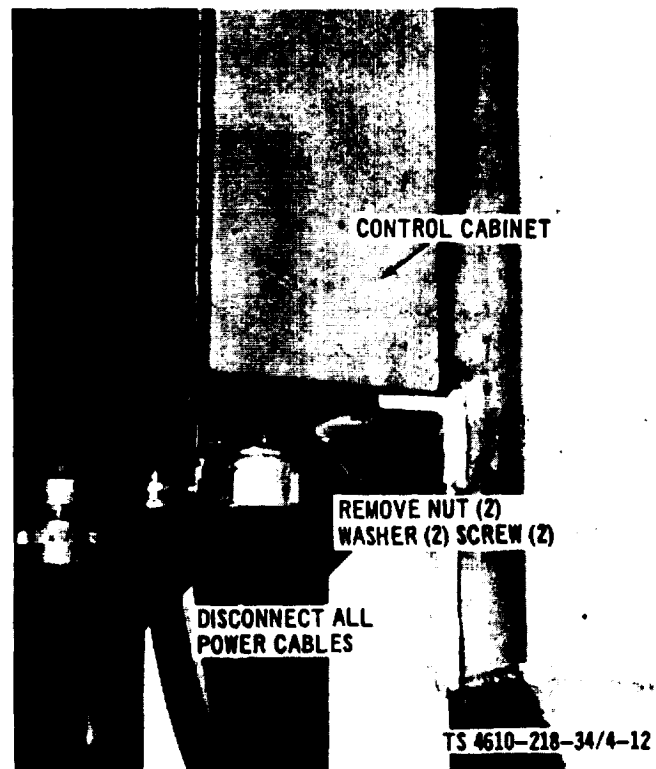

Figure 4-12. Electrical Control Cabinet, Removal and Installation
(1) Clean the electrical control cabinet with dry cleaning solvent P-D-680.
(2) Inspect the cabinet for cracks, breaks, dents, and other damage.
(3) Straighten minor dents and bends, weld small cracks and breaks, paint welded spots and damaged paint.
(4) Replace the cabinet if it is beyond repair.
d. Installation as a Unit. Refer to figure 4-12 and install the electrical control cabinet.